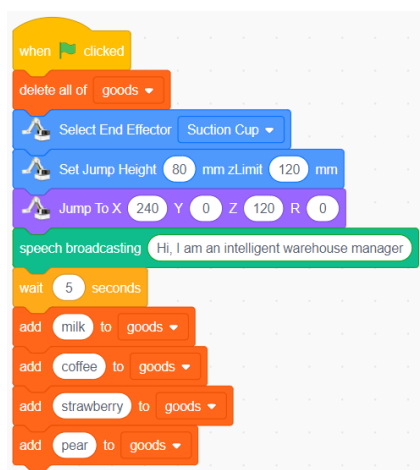

Figure 1.9 Add goods to the list
4) Add goods such as milk, coffee, strawberry, pear to the goods list, as shown in Figure 1.9.